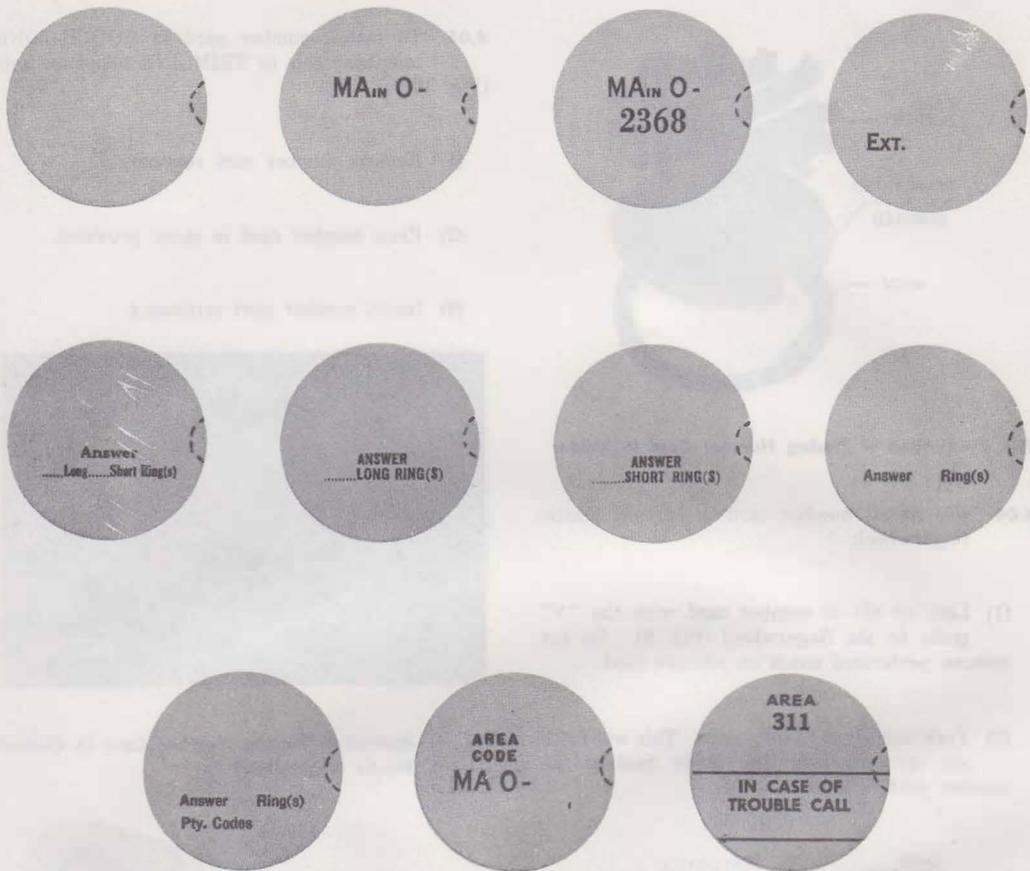

Fig. 6—Form E-4204-G Examples of Special Instruction Cards
2.05 Forms E-4204-G may be ordered with special instructions as shown in Fig. 6. There is a limited amount of space for instructions.